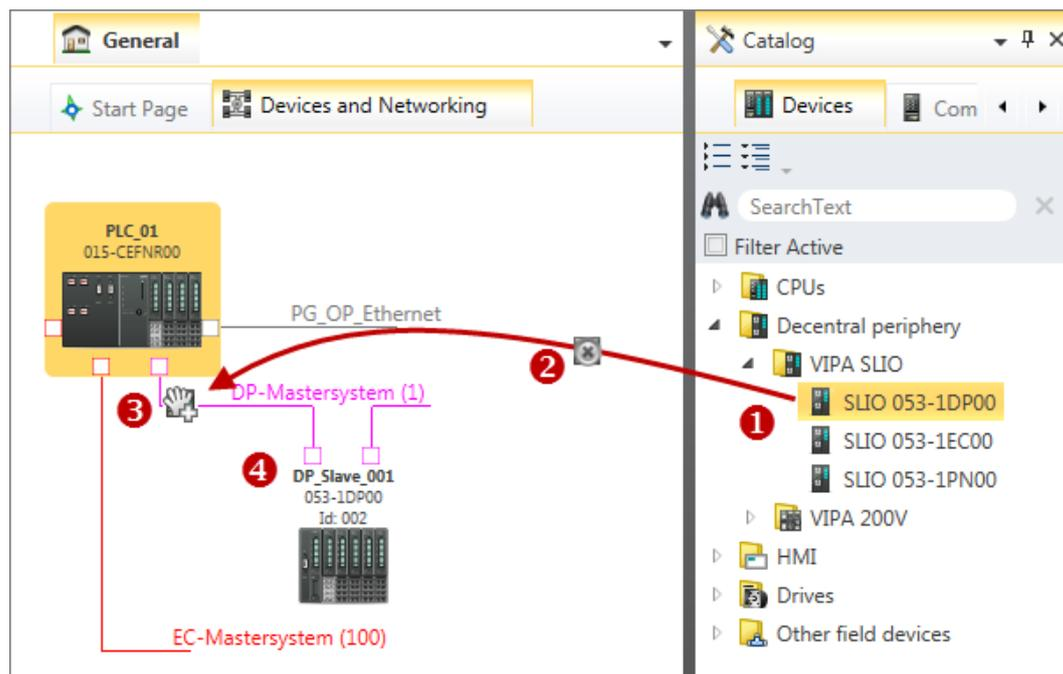

Fig. 59: Adding slave via "Catalog"
- **Catalog:** Drag the desired slave from the 'Device templates' register of the catalog (↳ *Chap. 4.10 'Catalog' page 34*) to the connecting line of the bus system in the 'Devices and networking' editor. Fig. 59